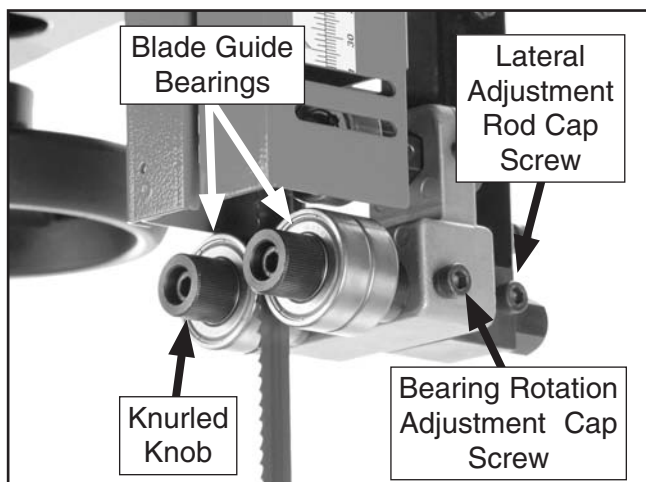

Figure 55. Blade guide controls.
3. Familiarize yourself with the blade guide controls shown in **Figure 55**.